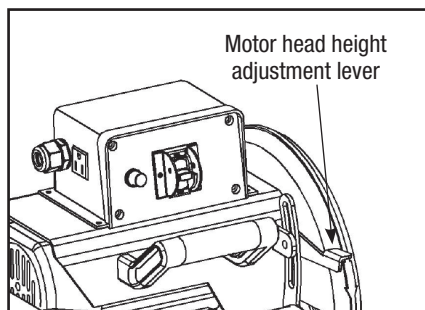

FIGURE 16
Move the *motor head height adjustment lever* upward (FIGURE 16), to adjust the head to a proper height below the table. Then lock the lever in the down position.
STEP 4: Loosen the motor head adjustment lever on the spring support (FIGURE 16), to release the cutting head.